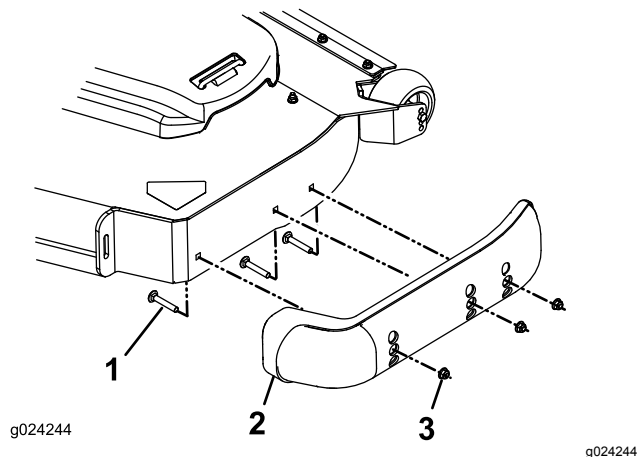

Figure 28
3. Remove the carriage bolts and nuts from each skid (Figure 28).